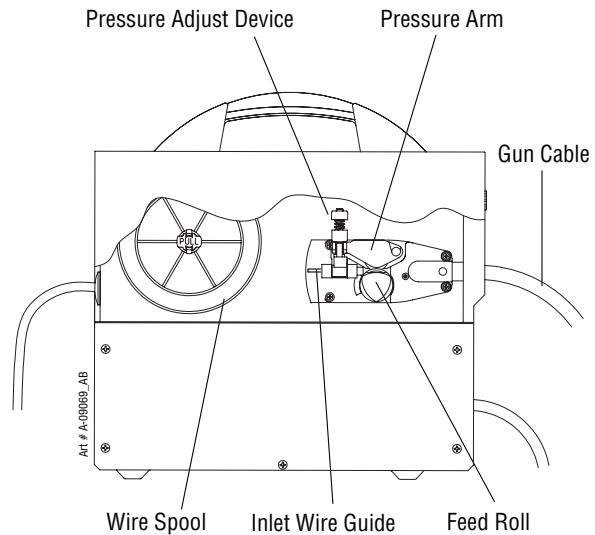

Figure 3-3: Wire Feeder Components
1. Loosen Pressure Adjust Device (Fig. 3-3).
2. Open Pressure Adjust Device (Fig. 3-3).